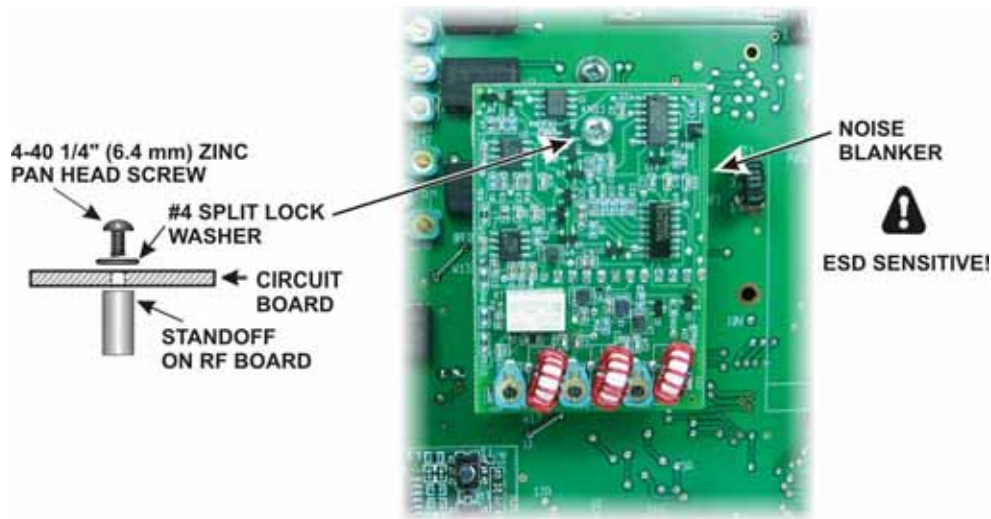

Figure 85. Installing the Noise Blanker Board.
- Plug the noise blanker board into J77 and attach it to the standoff using the hardware shown in Figure 85.